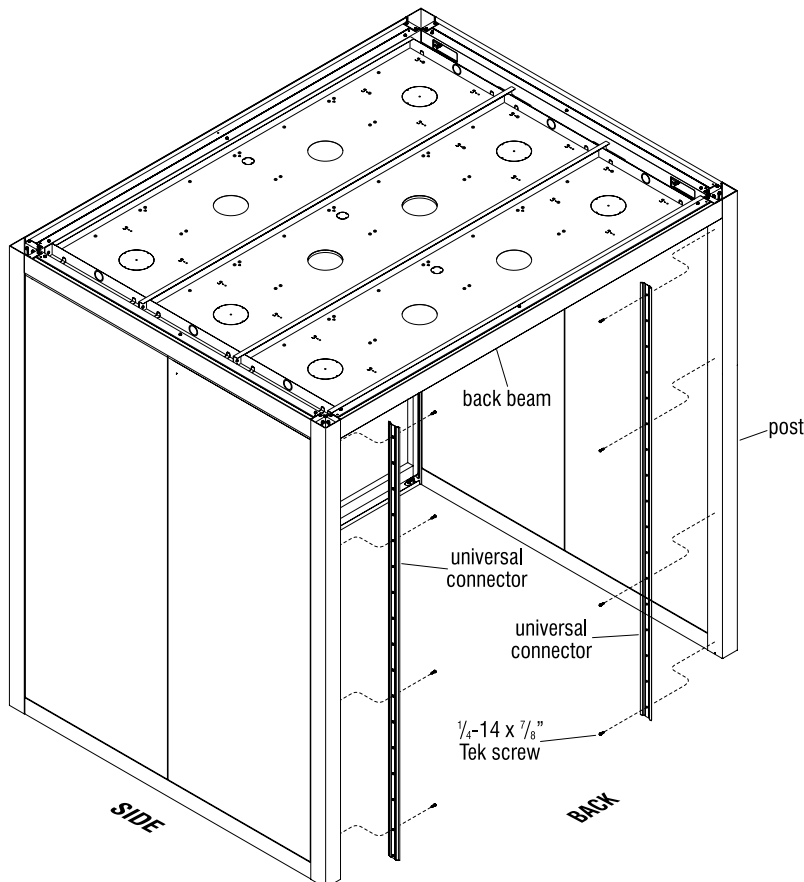

Figure 2 -Genius Universal Connector
3. To install universal connectors to each super structure post, first measure from the underside of the back beam, down to the floor at each post, then cut each universal connector to that measurement (Figure 2).
4. One at a time, perfectly center each universal connector to the side of the back wall post where the Genius panel will join to it and secure the universal connector to the post using four evenly spaced  $\frac{1}{4}$ -14 x  $\frac{7}{8}$ " Tek screws as illustrated (Figure 2).